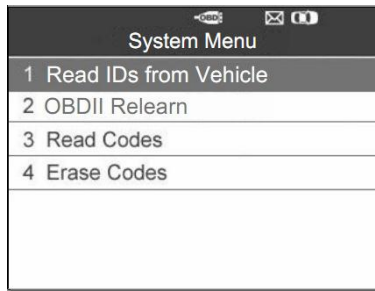

Figure 4-19 Sample TPMS Diagnostic Screen
5. The **TPMS Diagnostic** option allows user to **Read IDs from vehicle**, write IDs to vehicle (**OBD II Relearn**), **Read/Erase codes** (*Figure 4-19*).
1. From **TPMS Diagnostic Menu**, use the **UP/DOWN** scroll button to select the **Read IDs from Vehicle**, and press the **Y** button (Figure 4-19).
1. From **TPMS Diagnostic** Menu, use the **UP/DOWN** scroll button to select the **OBD II Relearn** function to write IDs to vehicle directly without performing further procedures (Figure 4-19).
1. From **TPMS Diagnostic** Menu, use the **UP/DOWN** scroll button to select **Read Codes**, and press the **Y** button (Figure 4-19).
1. From **TPMS Diagnostic** Menu, use the **UP/DOWN** scroll button to select **Erase Codes**, and press the **Y** button (Figure 4-19).